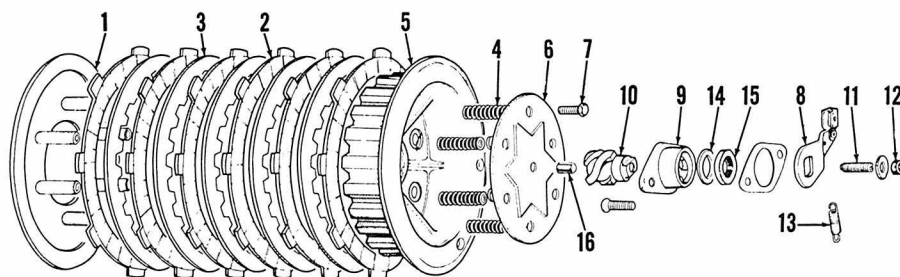

Fig. BS3-22—Exploded view of clutch assembly.
**CLUTCH.** The multiple disc, wet type clutch is mounted on the right end of the transmission input shaft and can be removed after removing crankcase right side cover. Screws (7—Fig. BS3-22) should be tightened to 40 in. lbs. torque. The clutch retaining nut should be tightened to 130 in. lbs. torque. The release screw (10) can be installed in bracket (9) three different ways. When correctly installed, flats for release arm (8) will be horizontal, when end of screw (10) is flush with face of bracket (9). Make certain that release plunger (16) is